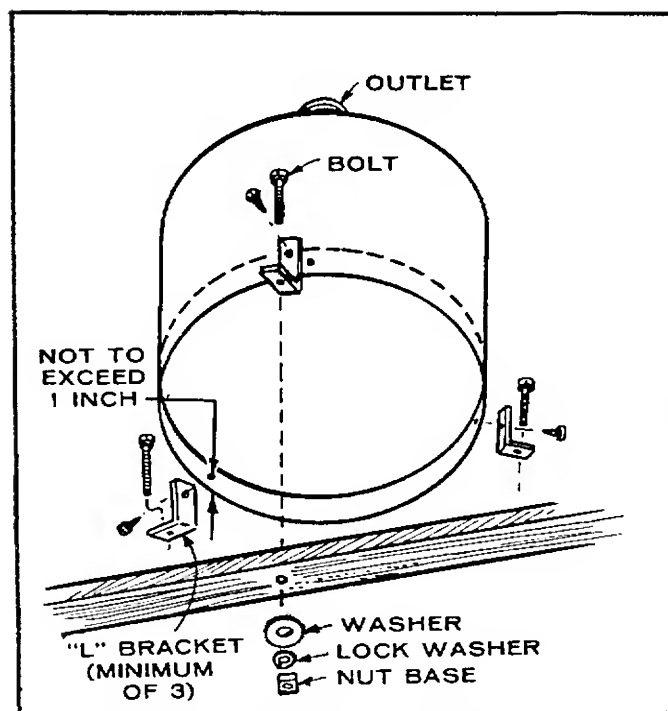

FIGURE 5. SECURING THE MUFFLER
1. Secure the muffler to the predetermined location (within ten feet of the engine exhaust outlet) using "L" brackets (Fig. 5) or other suitable mounting devices such as wood blocks or metal straps. Flexible mounts may be used if so desired.